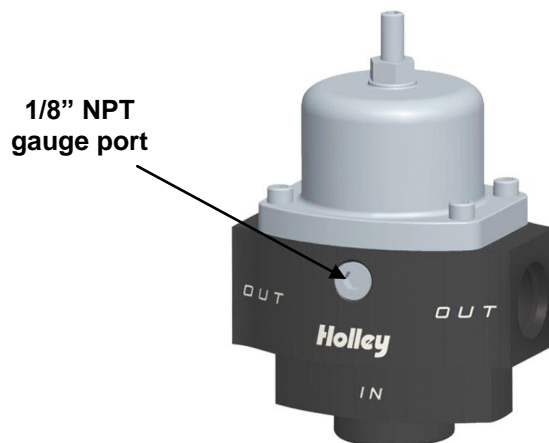

Figure 1
3. Connect the fuel line from the "out" side of the pump to the "in" side or bottom of the regulator. (Figure 1) All fuel line connections must be leakproof.